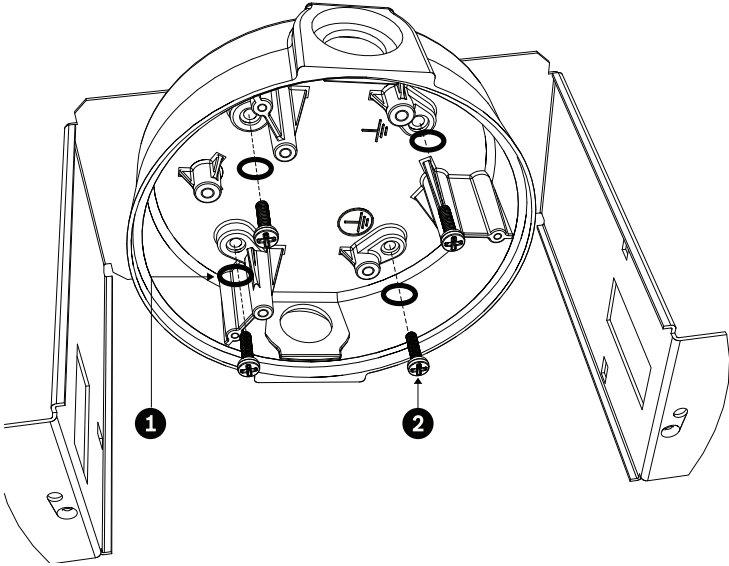

Figure 3.4 Attach VJR-A3-JW to Mounting Bracket
- Thread the four (4) 3.97 mm I.D. by $\varnothing 1.78$ mm O-rings (item 1, *Figure 3.4*) onto the four (4) M4 x 16 Phillips Pan Head Machine Screws.
10. Attach the VJR-A3-JW to the mounting bracket using the four (4) M4 x 16 Phillips Pan Head Machine Screws (item 2, below).